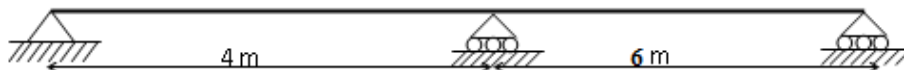

Figure 8
11. Draw the influence line diagrams for the reaction at the intermediate support and the bending moment at a section 4 m from the right support of a two-span continuous beam supported as shown in Figure 8. [10]